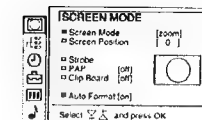

Fig. 36
- 2 Select the symbol **[Screen Mode]** for «Screen Mode» with **Δ+** or **∇-** and press **OK**. The **SCREEN MODE** menu appears (See Fig. 36).